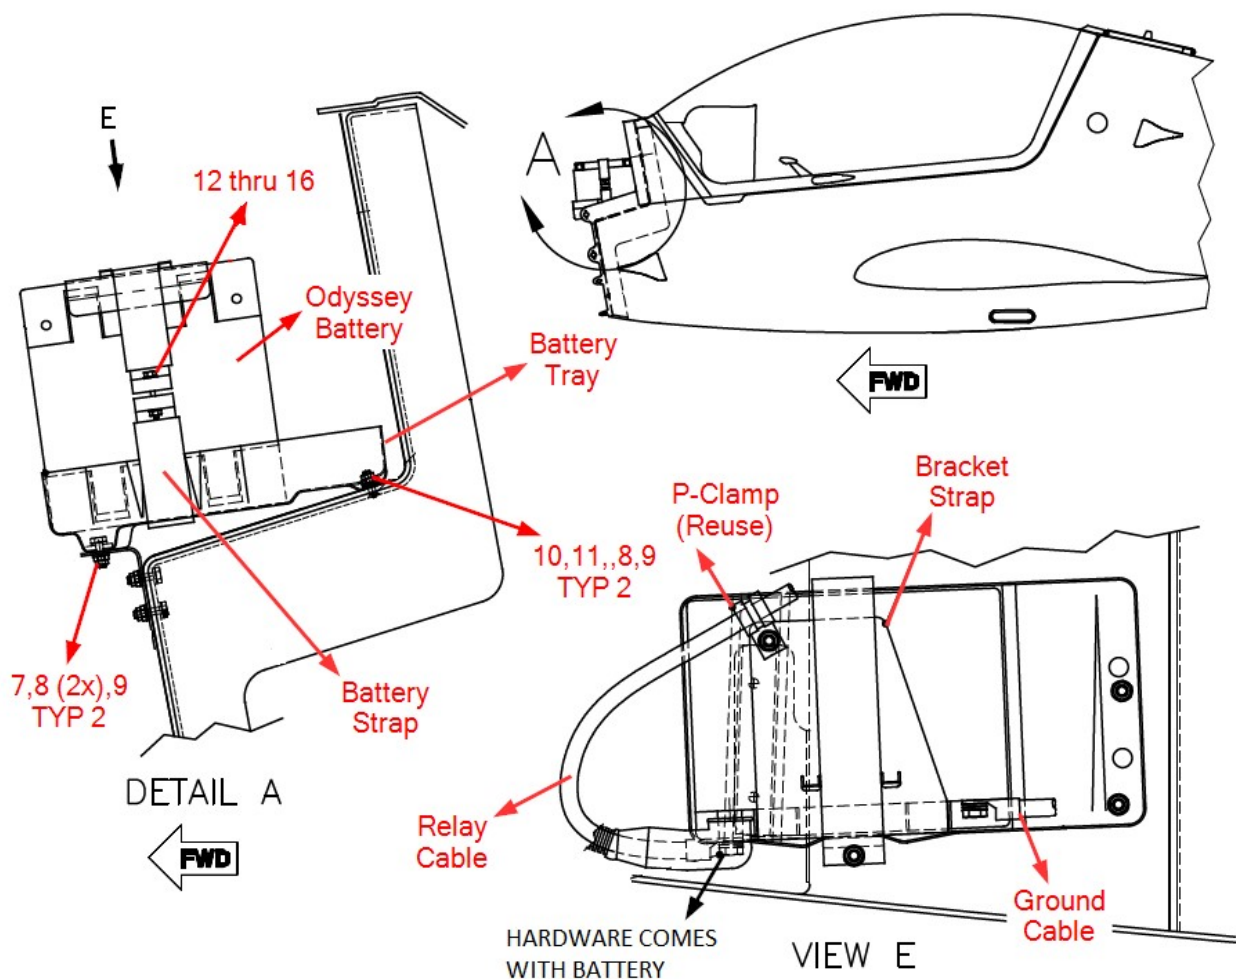

Figure 3 - Odyssey battery installation
4. Install new battery tray (item 2) as follows:
- A. Position the battery tray by placing the recessed dimples located underneath the aft of the tray over the existing rivets on the firewall. Refer to Figure 3.
- D. Attach the tray using the new hardware (items 7 through 11). Refer to Figure 3.
5. Place the Odyssey battery (item 1) on the firewall battery tray. The terminals point outwards of aircraft. Refer to Figure 3.
6. Install the bracket strap (item 4) and battery strap (item 3), secure them using the new hardware (items 12 through 16). Refer to Figure 3.
9. Secure the newly installed relay cable to the battery with the retained P-Clamp and its attaching hardware from step 1. Refer to Figure 3.
2. Install the Odyssey battery (item 1) using the new hardware (items 12 through 16) on the battery strap. Refer to AMM Chapter 24-31 and Figure 3.